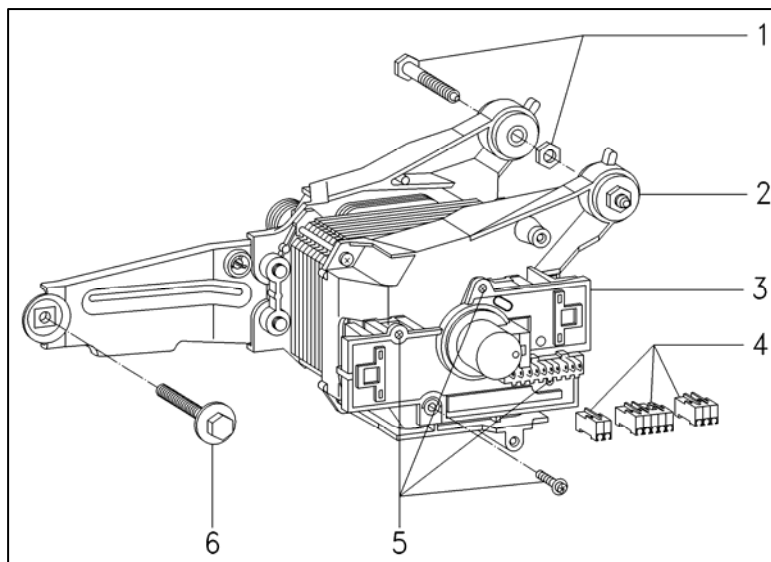

Figure 060-2: Main motor assembly
2. Refer to Figure 060-2.
3. Disconnect the electrical connections (4).
6. Unscrew the module fixing screws (5), and remove the module.